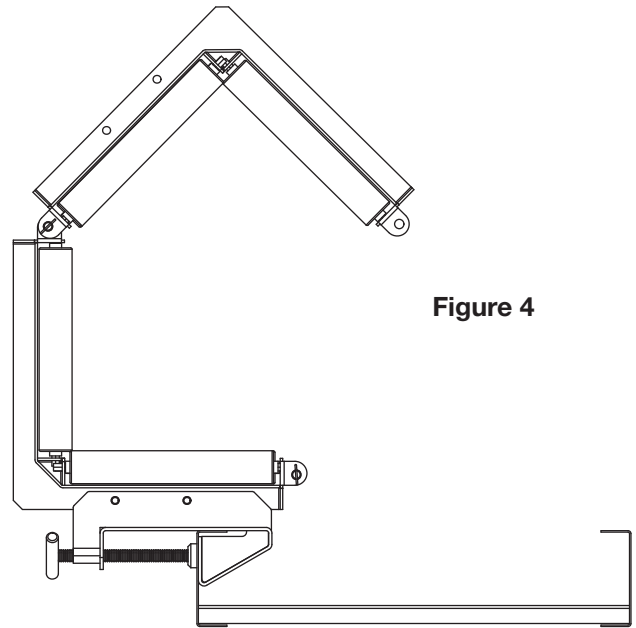

Figure 4
- Orient the roller so that the unit opens on the bottom to the inside of the tray as shown in Figure 4.